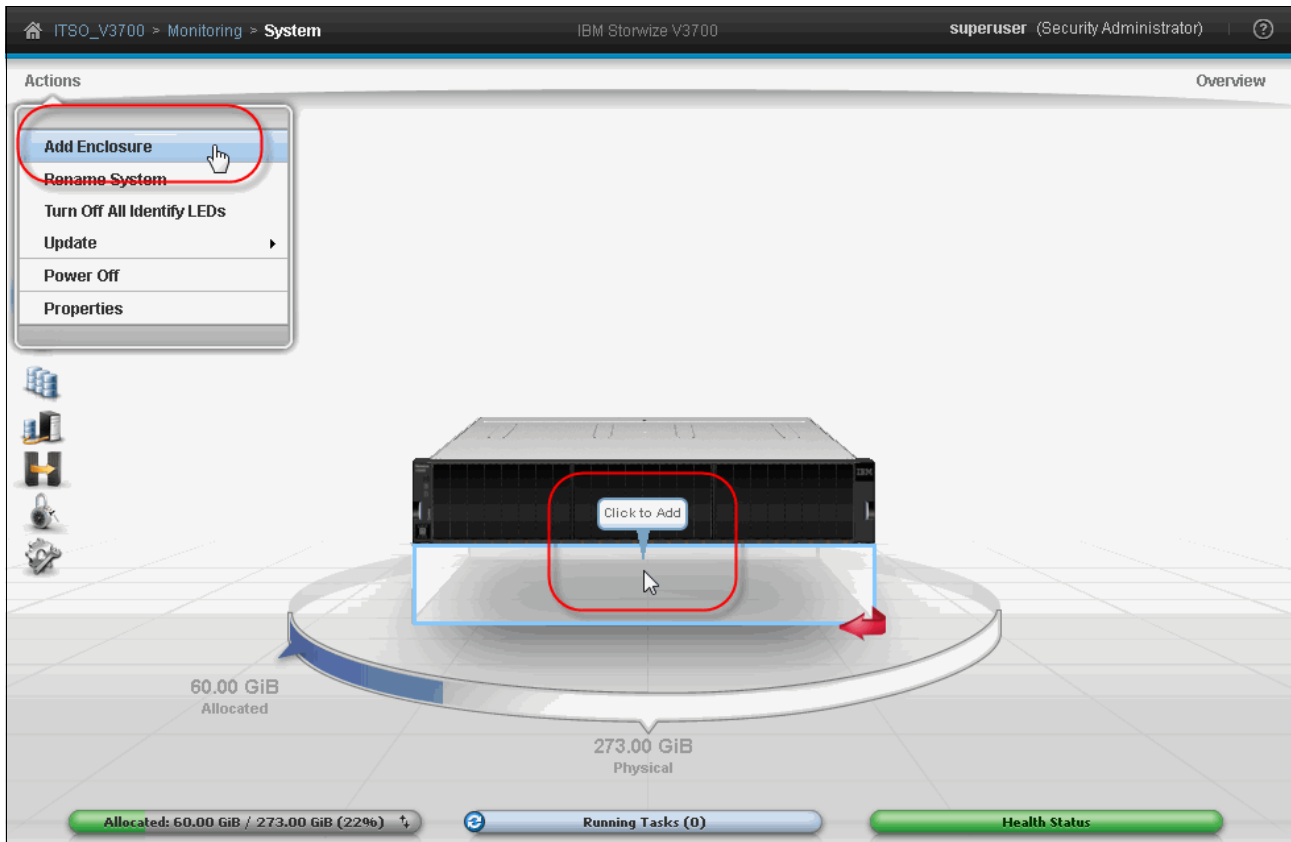

Figure 2-34 Adding new expansion enclosure
2. Click **Add Enclosure** or **Click to add** to add the new enclosure, as shown in Figure 2-34.